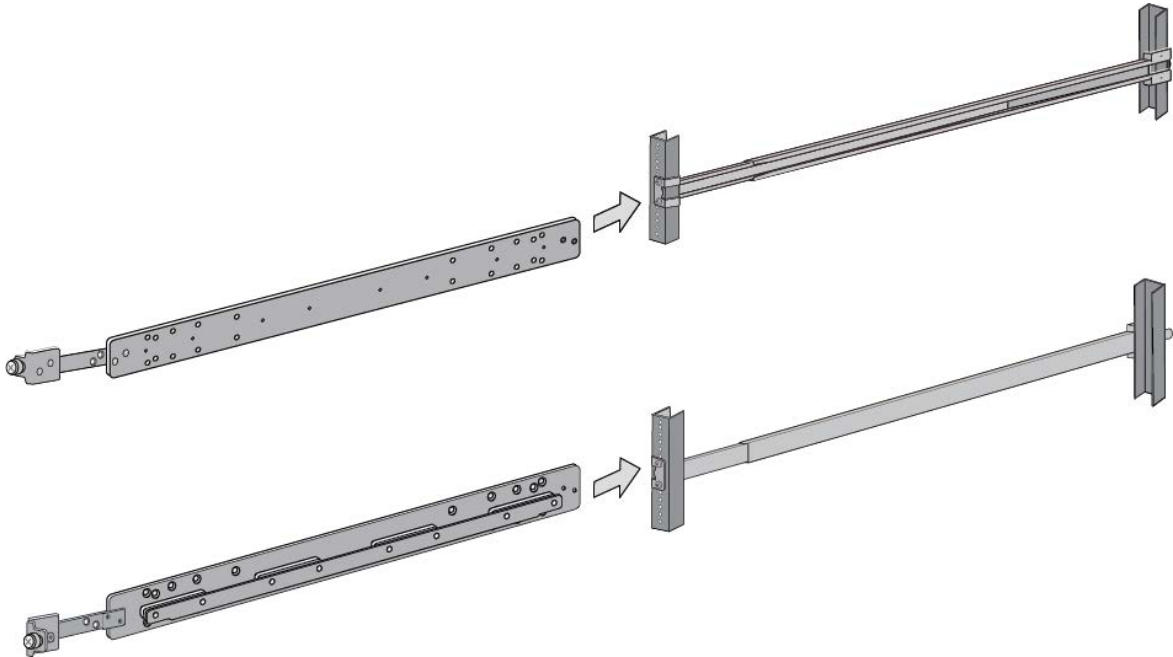

Figure 54. Testing the Inner Rails with the Extension Brackets
4. To test the lengths of the extension brackets, slide the inner rails into the outer rails in the equipment rack. Refer to Figure 54.